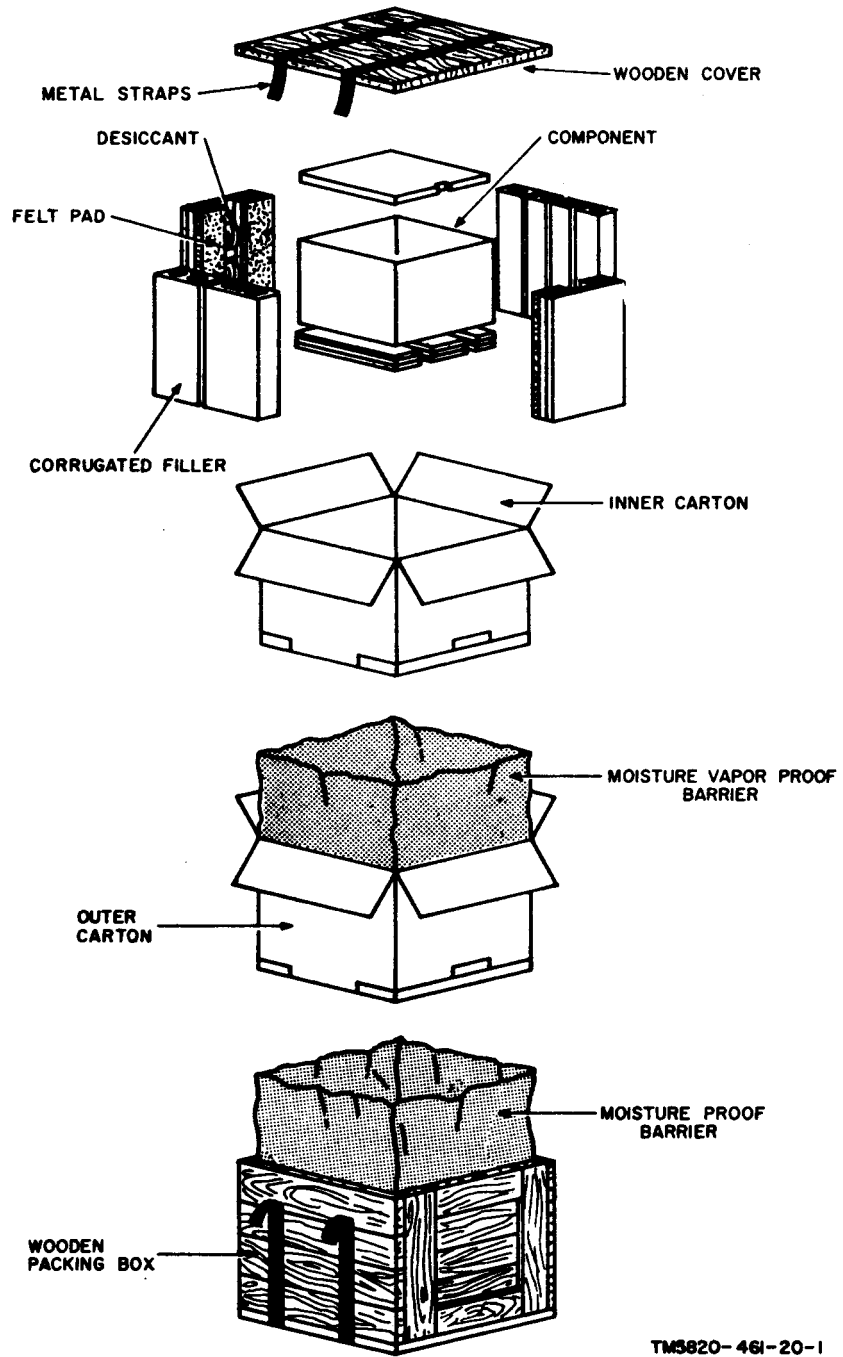

Figure 2-1. Typical packaging diagram.
*a. Packaging Data.* When packed for shipment, the components of the radio set are placed in cartons and packed in wooden boxes. A typical packing case and its contents are shown in figure 2-1. The packaging data for the AN/GRC-50(V)1 is listed below. The other models are packed similarly. Refer to appendix B for list of items contained in other configurations of the radio set.